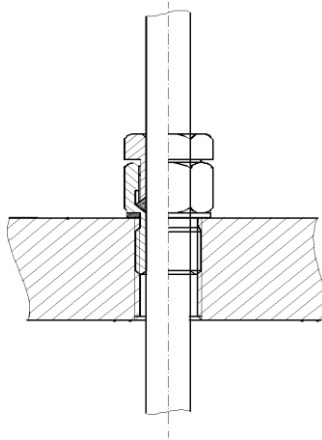

Fig. 8. Example of an installation of a sensor with the I guard and a straight connection
- 8.2.1 Attempt to make the electrical connections and operate the sensor only once you have read and understood this Manual. Connect the sensor wiring in accordance with the connection diagram in Fig. 8. The sensors in explosion hazard zones can only be wired by personnel with the necessary expertise and experience.